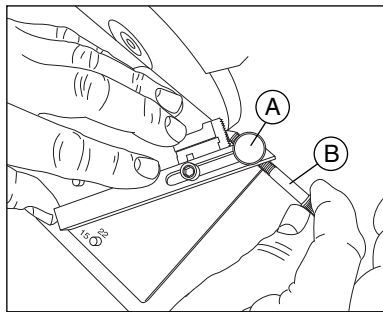

fig. 4
1. Locate chaser along guide bar (fig. 4).